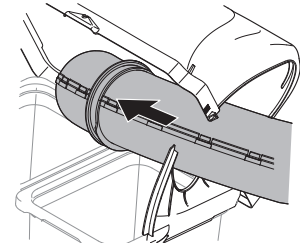

Figure 28
3. With the grass catcher cover open, install the upper discharge chute through the discharge chute opening, as shown in Figure 28.